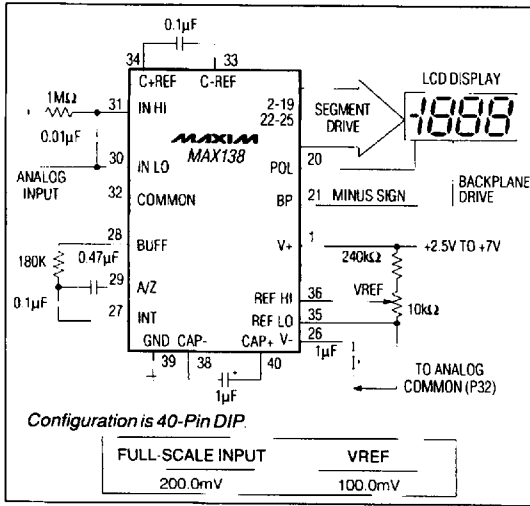

Figure 1. MAX138 Typical Operating Circuit
(V+ = +5V; TA = +25°C; test circuit of Figure 1, unless otherwise noted.)
**Note 4:** Test condition is VIN applied between pin IN HI and IN LO through a 1MΩ series resistor as shown in Figures 1 and 2.
**Note 5:** 1MΩ resistor is removed in Figures 1 and 2.
Figures 1 and 2 show the typical operating circuit for the MAX138/139/140 when powered by a single +5V supply.
The most common reason for noisy readings, particularly in engineering labs, is a noisy input signal. The  $1M\Omega/10nF$  input filter shown in Figures 1 and 2 will significantly reduce high-frequency noise, and the capacitor value can be increased to further attenuate 50/60Hz.